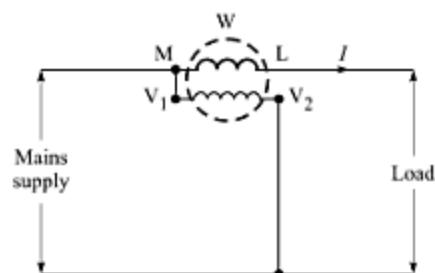

Fig. 1.14 Wattmeter connections.
**(2) Wattmeter** A wattmeter is an instrument that measures the power (both dc and ac) going to an electrical load. It has two coils—called *current coil* and *potential (or pressure) coil*. The terminals of the current coil are marked as M and L; and those of the pressure coil as V1 and V2. The terminals M and V1 are joined together to make a common terminal. The current coil is connected in series with the load and the pressure coil across the load, as shown in Fig. 1.14.